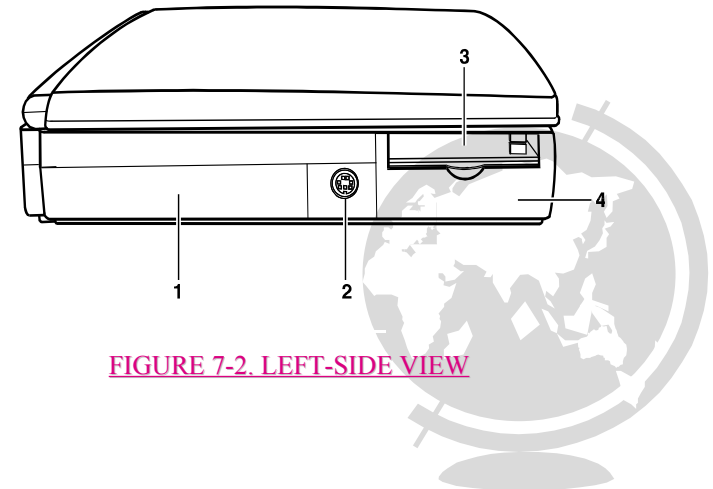

FIGURE 7-2. LEFT-SIDE VIEW
7.1.2 LEFT-SIDE VIEW (FIGURE 7-2)